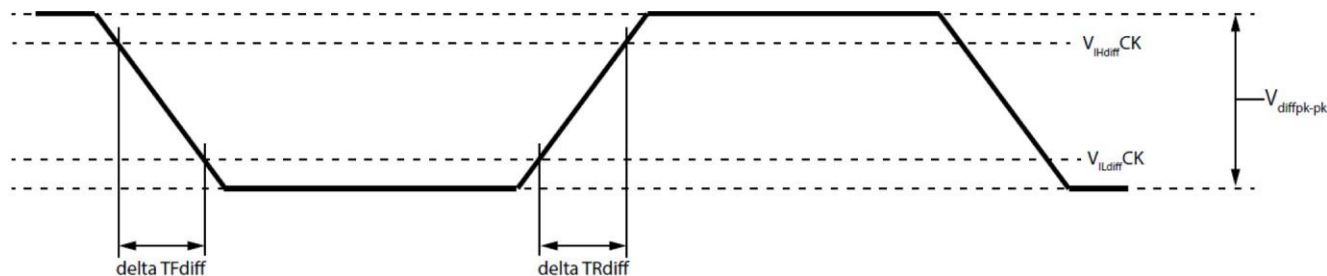

Figure 21. Differential Input Slew Rate Definition for CK_t, CK_c
- 1) V_{diffpk-pk} defined in Figure 21